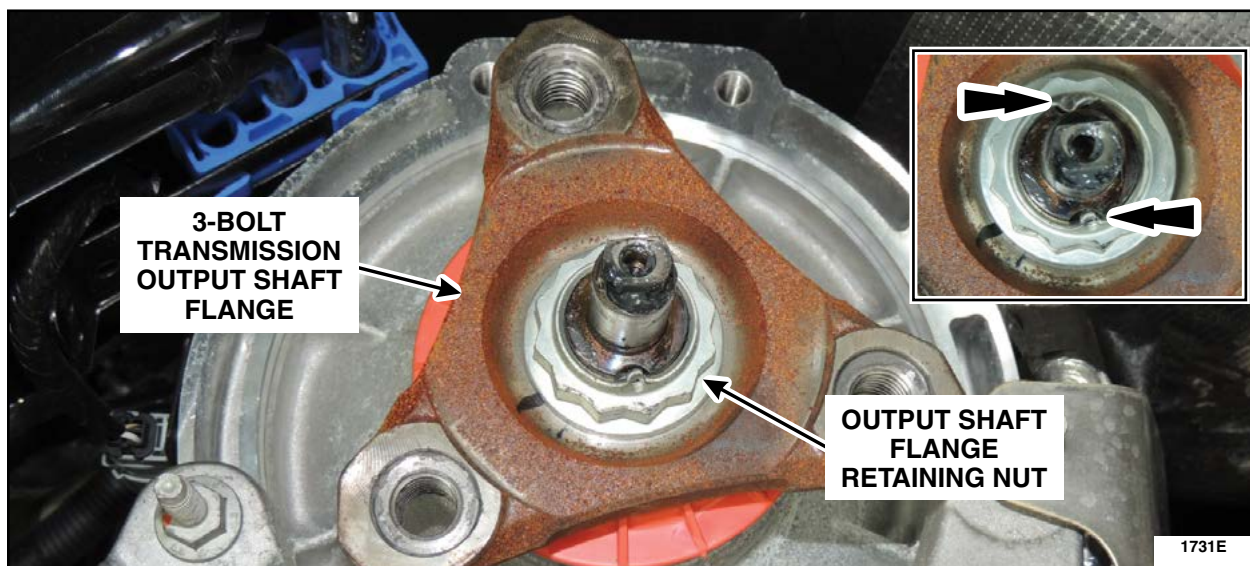

FIGURE 18
2. Using a 1/2" drive, 34mm, 12-point deep socket, remove and discard the 3-bolt transmission output shaft flange retaining nut and flange. See Figure 18.